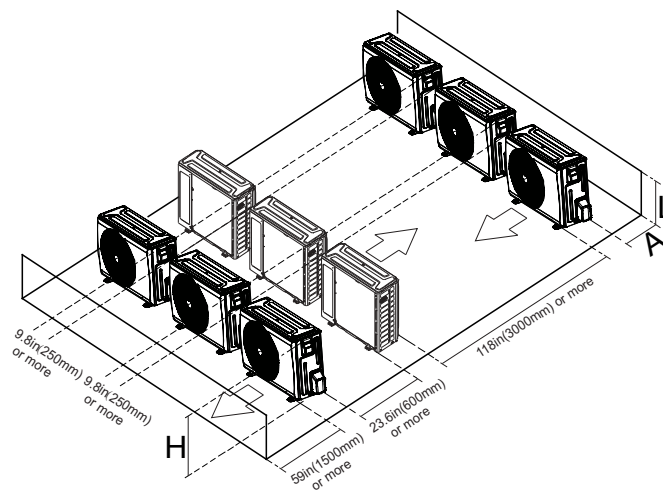

Fig. 8 — Clearances for Multiple Units
- A location which provides appropriate clearances (see Fig. 8).
- Allow sufficient space for airflow and service of the unit. See Fig. 8 for the required minimum distances between the unit or walls.